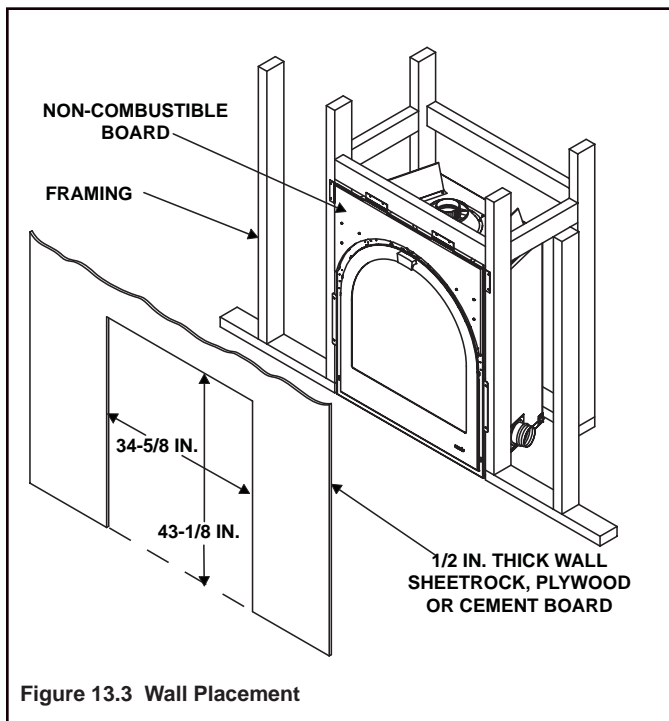

Figure 13.3 Wall Placement
3. Wall Attachment: Attach wall to framing centering cutout with fireplace (see Figure 13.3).